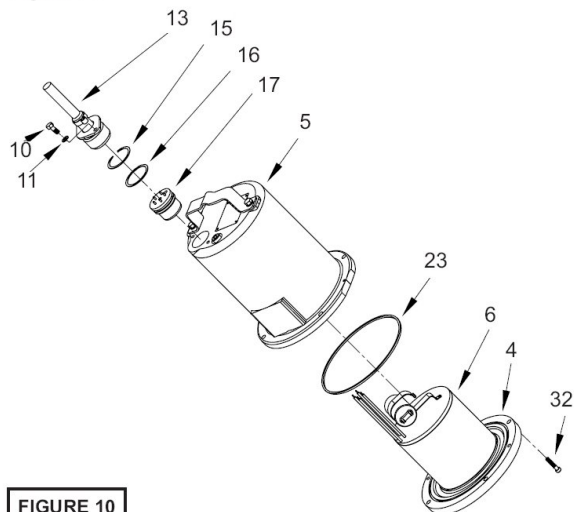
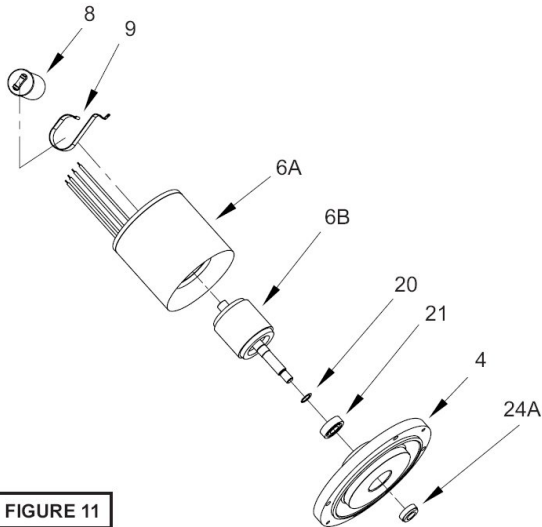
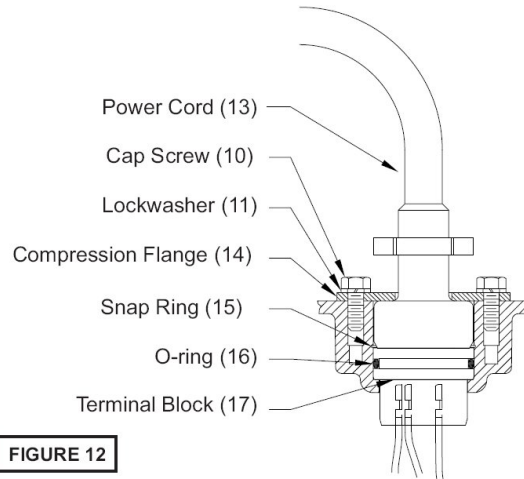

FIGURE 10
FIGURE 11
FIGURE 12
Position unit upright, using blocks to avoid resting unit on shaft. Unscrew cable hex bolts (10) and remove compression flange (14) and power cord (13). Remove snap ring (15) with a flat head screwdriver. Pull the terminal block (17) out of the housing (5) using a T-bolt or pair of pliers and a .25-20 screw in the threads of the terminal block (17). Be sure to leave slack on the motor leads connected underneath (see Figure 10). Use needle nose pliers to pull each female connector off of the pins on the underside of the terminal block (17) see Figure 12. The unit voltage should be noted. Remove socket head cap screws (32). Vertically lift the motor housing (5) from seal plate (4) by lifting handle (12). Inspect square ring (23) for damage or cuts. Remove the motor bolts and lift motor stator from seal plate (4). Disconnect capacitor leads from capacitor (8, single phase units). Examine bearing (21) and replace if required. If replacement is required, remove bearing (21) from motor shaft using a wheel puller or arbor press, see Figure 11.
Check power cable (13) for cracks or damage and replace if required (see Figure 12). Make internal wiring connections which are independent of the terminal block as shown, using connectors (36) as required. **Do not use wire nuts.** Slip motor leads and ground wire through fiberglass sleeve.
Lower motor housing (5) down onto seal plate (4) while aligning holes and stringing motor leads through the cord entry bore. (Slipping cord inside a 1 ft. length of .5" conduit makes this easier). Place socket head cap screws (32) through seal plate (4) into motor housing (5) and torque to 60 in-lbs. Reconnect motor and leads to the underside of the terminal block (17), as shown in Figures 12 & 13. Note that the pins are numbered underneath the terminal block. Place o-ring (16) into groove in terminal block and lubricate with dielectric oil. Press the terminal block (17) into the housing so it seats completely below the snap ring groove. Place snap ring (15) into groove in cord entry bore of housing.